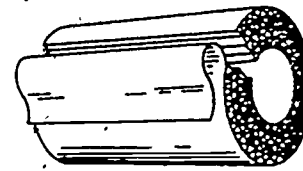

Figure 53. Air Cell Insulation
**AIR CELL.** Air cell pipe covering is made of fine quality asbestos paper. The covering is generally used to cover low pressure steam and vapor lines. Air cell insulation is formed by layers of plain asbestos felt that is alternated with corrugated asbestos felt, with each lamination or ply approximately 1/4 inch thick. Air cell insulation is furnished in three-foot lengths unless otherwise specified and is covered with a canvas jacket (as shown in figure 53).